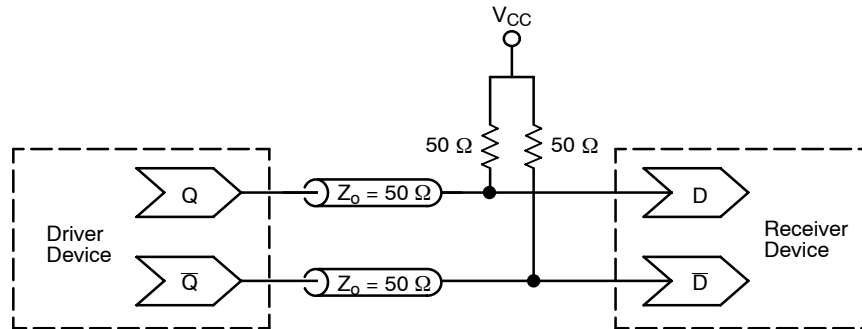

Figure 14. Typical Termination for Output Driver and Device Evaluation
4. CML outputs require 50Ω receiver termination resistors to V_{CC} for proper operation. See Figure 14.